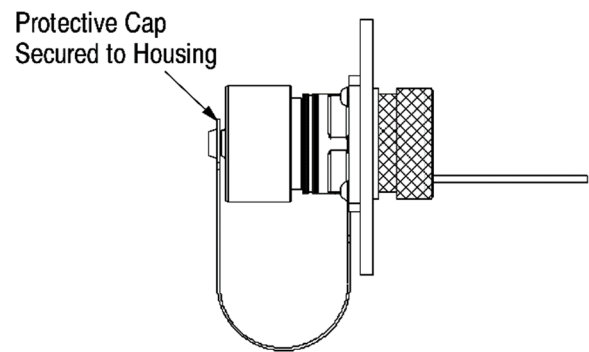

Figure 12
2. Install the connector through the front or back of the panel. See Figure 12, Detail A.
3. Position the fastener loop of the tether of the protective cap over one of the small holes in the panel. Then using one of the four threaded fasteners, secure the tether loop and the connector to the panel. Then install the remaining three threaded fasteners. See Figure 12, Detail A. Tighten the each of the four threaded fasteners to manufacturer's recommended torque.
4. Thread the protective cap onto the housing. Hand-tighten the protective cap. See Figure 12, Detail B.